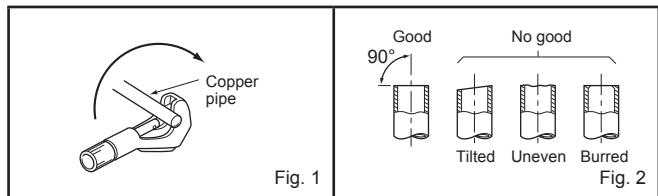

Fig. 1
- 3) Attach the conduit pipe to the conduit plate with the lock nut. The indoor/outdoor unit connecting wire (A) appearing from the inside of conduit pipe should be less than 7/8 in. (23 mm). (Fig. 1)
- The drain hose should point downward for easy drain flow. (Fig. 1)
- 1) Cut the copper pipe as straight as possible with a pipe cutter. (Fig. 1, 2)